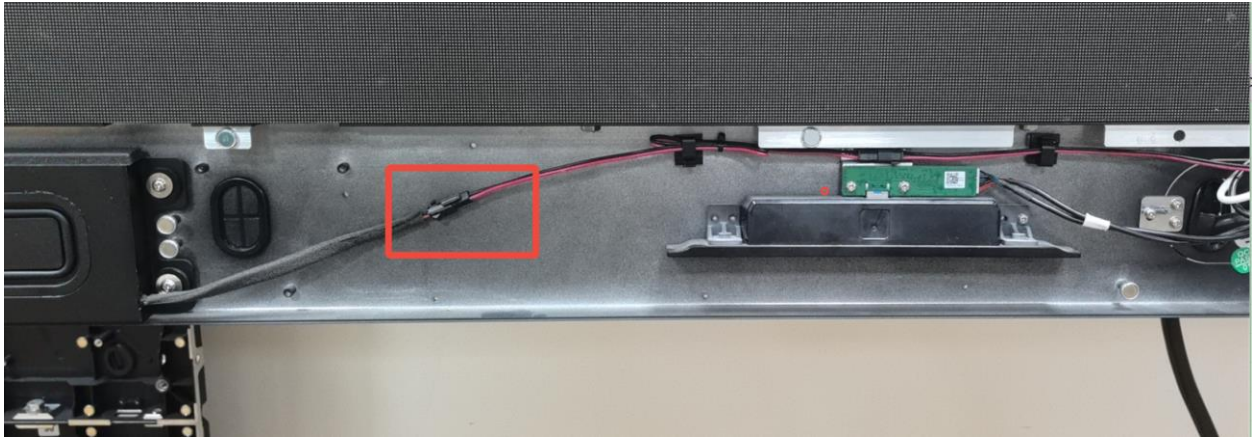
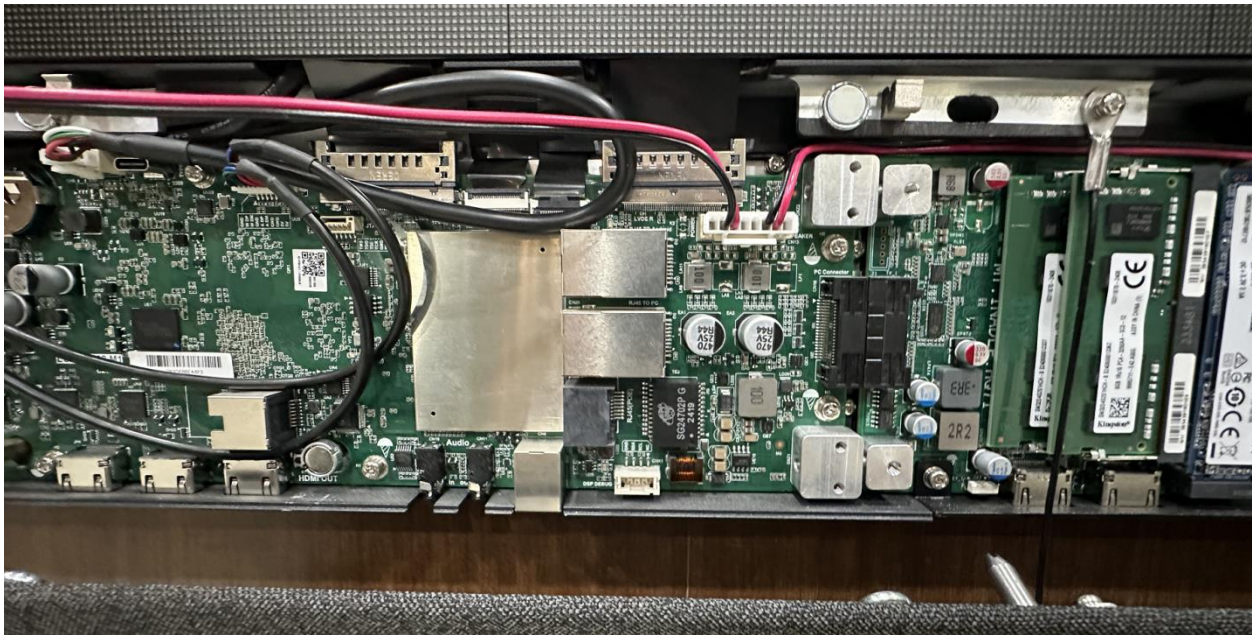

Figure 22
Figure 23
1) Connect the mainboard and speaker (see Figure 22). All mainboard cables have been pre-installed during shipment (see Figure 23)